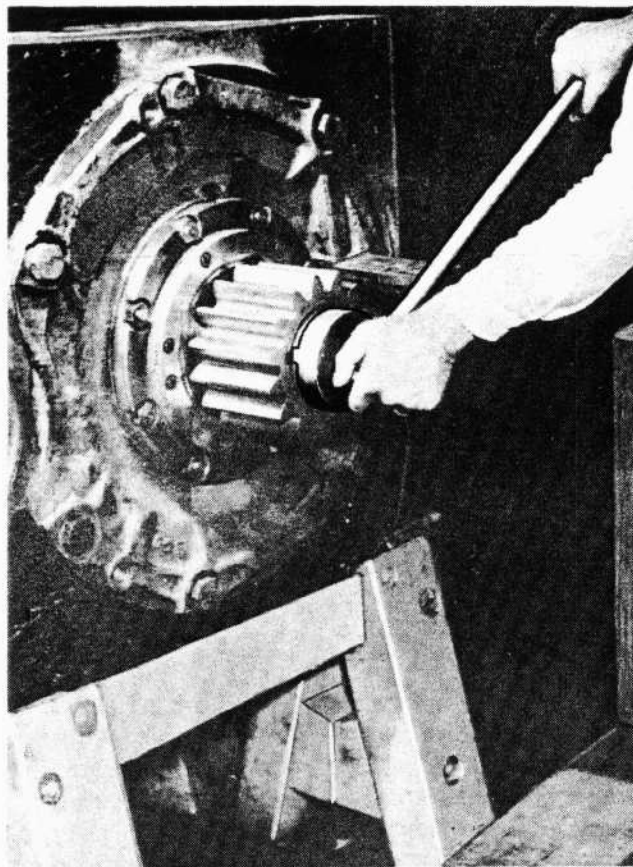

Fig. 27 - Removing Pinion Retaining Nut 6322
1. Remove the nut from end of armature shaft with a retaining nut wrench and handle, Fig. 27, or with an air impact wrench.
1. Loosen the nut on the end of the armature shaft with a retaining nut wrench and handle, Fig. 27, or with an air impact wrench approximately one turn, but do not remove.